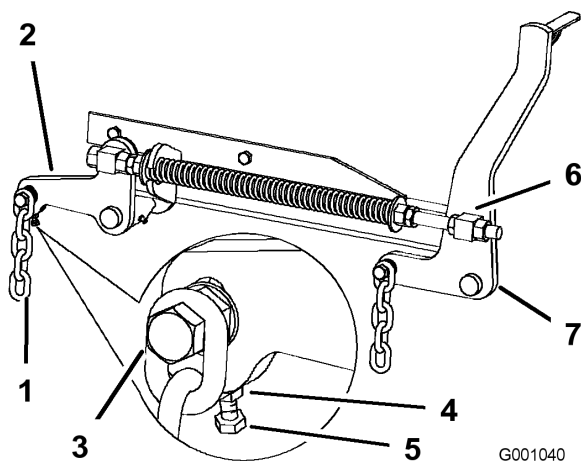

Figure 71
7. If the measurements at positions **B** or **C** are not correct, loosen the bolt attaching the rear chain to the rear support arm (Figure 71).
8. Loosen the jam nut under the rear support arm and adjust the adjustment bolt to get a measurement of 3-1/8 to 3-1/4 inches (Figure 71).
7. Loosen the front swivel jam nuts, at the front of the right and left swivels, approximately a 1/2 inch (13 mm) (Figure 71).
8. Adjust the lift nuts on both the left and the right side of the machine to achieve 1/4 to 3/8 inch (6 to 10 mm) lower in front at **A** than in the rear at **B** (Figure 71).